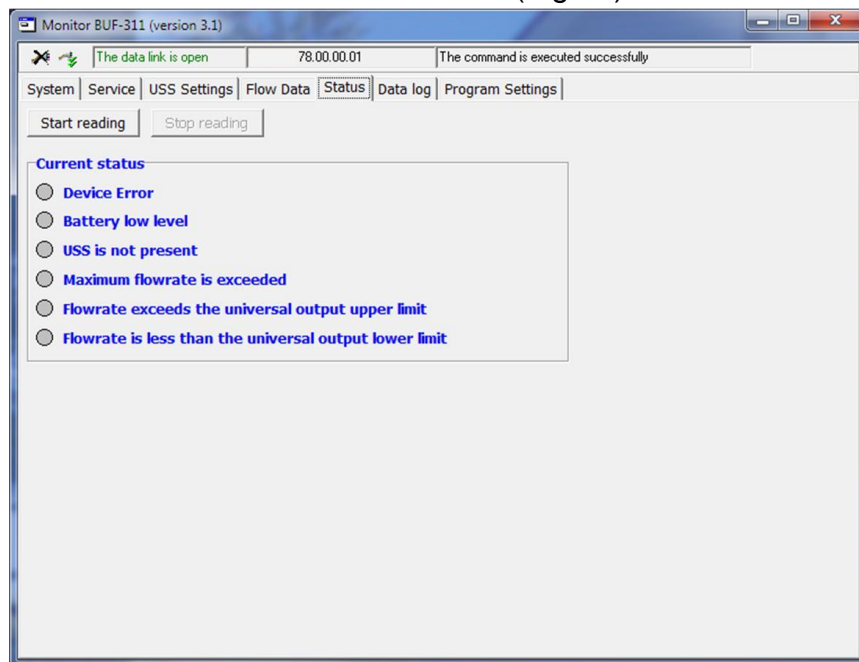

Fig.10. "Status" window
4.1.5. In the "**Status**" tab, on pressing the "**Start reading**" button, the current status of the flow meter is indicated (Fig.10).